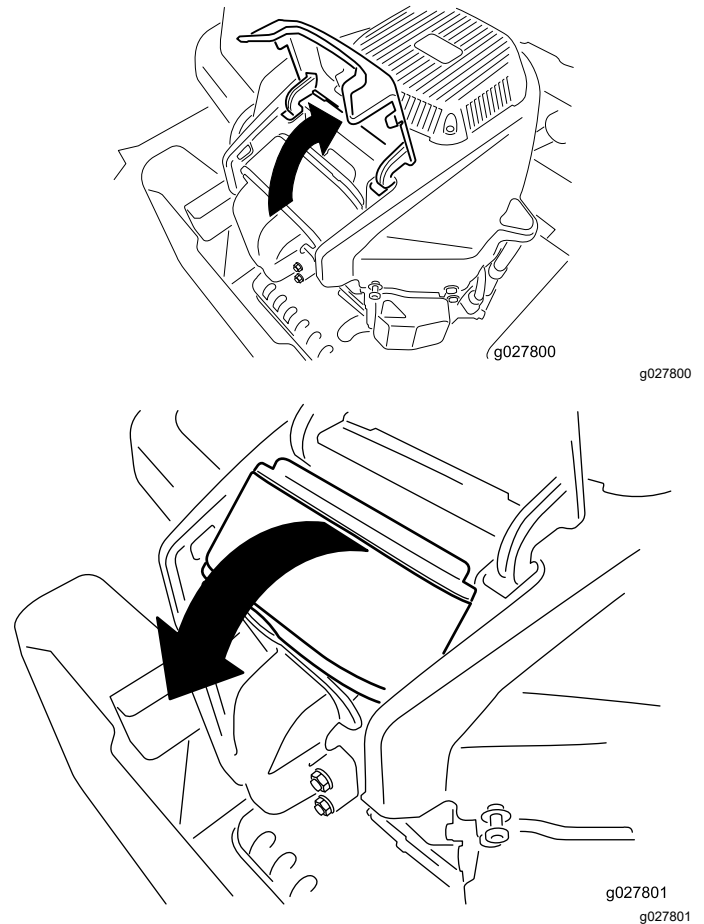

Figure 69
4. Lift the cover and rotate the air-cleaner assembly out of the engine (Figure 69).